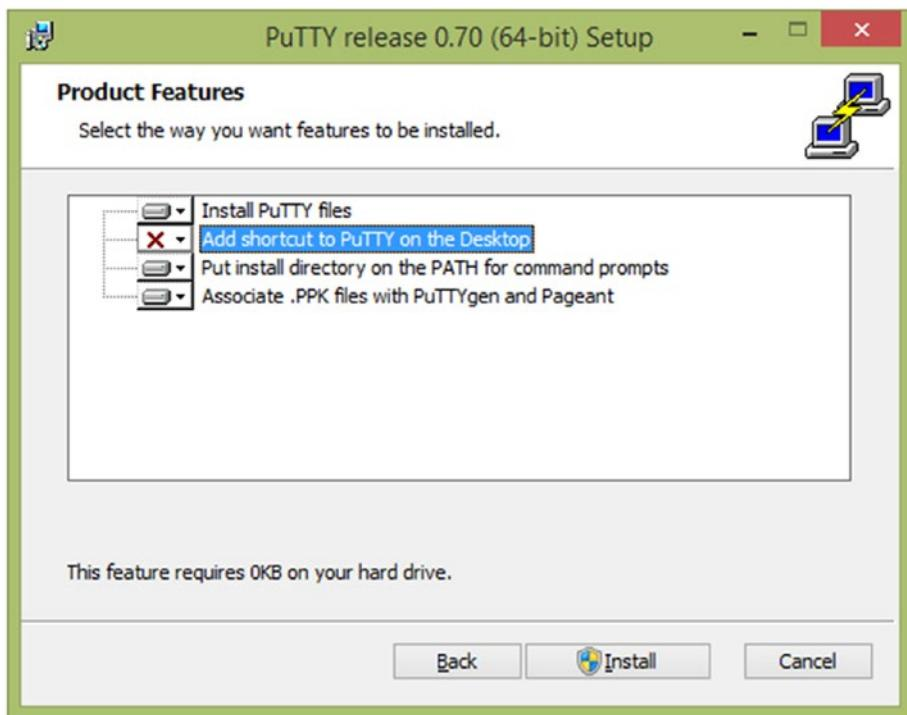

Figure 3-32. Customizing the product features
- To add a desktop shortcut for PuTTY, click “Add shortcut to PuTTY on the desktop” (click the button marked with an X), and from the drop-down menu, choose the “Will be installed on the local hard drive” option. Then click the Install button to continue (Figure 3-32).